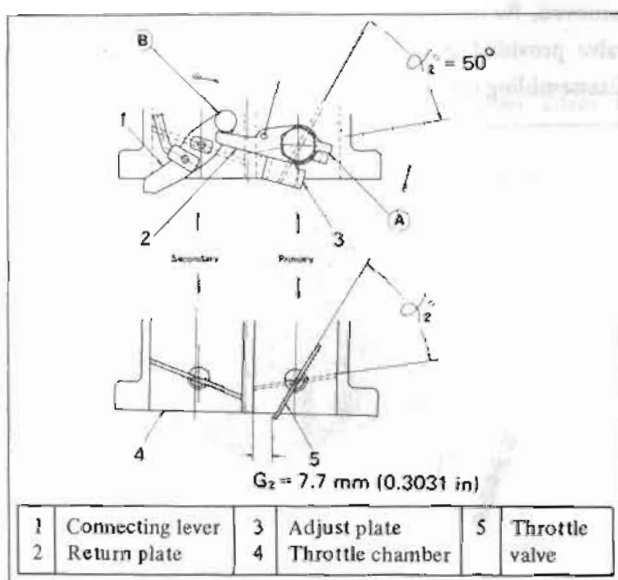

Fig. EF-22 Adjustment of interlock opening of throttle valve
Figure EF-22 show the primary throttle valve opened α_2° . When the adjust plate fixed to the primary throttle valve is open α_2° , it comes to contact with the connecting lever at (A). When the throttle valve is further opened, the point (B) where the connecting lever is in contact with the stopper, is detached, permitting the secondary system to start actuating.